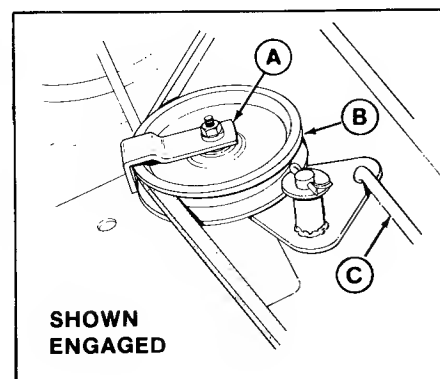
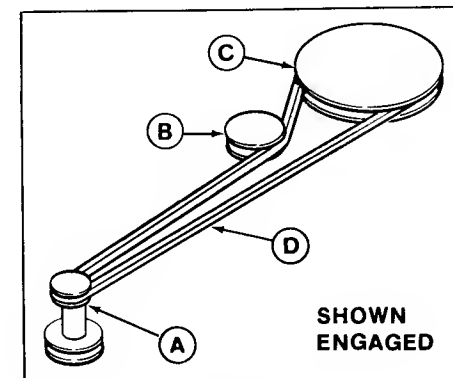

Figure 24. Removing Belt Guide (seen from bottom of tractor)
Figure 25. Tractor Belt Pattern
4. Loosen the nut that secures the idler pulley belt guide (figure 24) and slip the belt out.
9. Install the new belt in reverse order of removal. The belt pattern is shown in figure 25. Be sure the belt guide (figure 24) is positioned in the center area of the belt that contacts pulley. The belt must not touch guide when tractor clutch is engaged (pedal up). To tighten belt guide, hold the capscrew while tightening the nut.